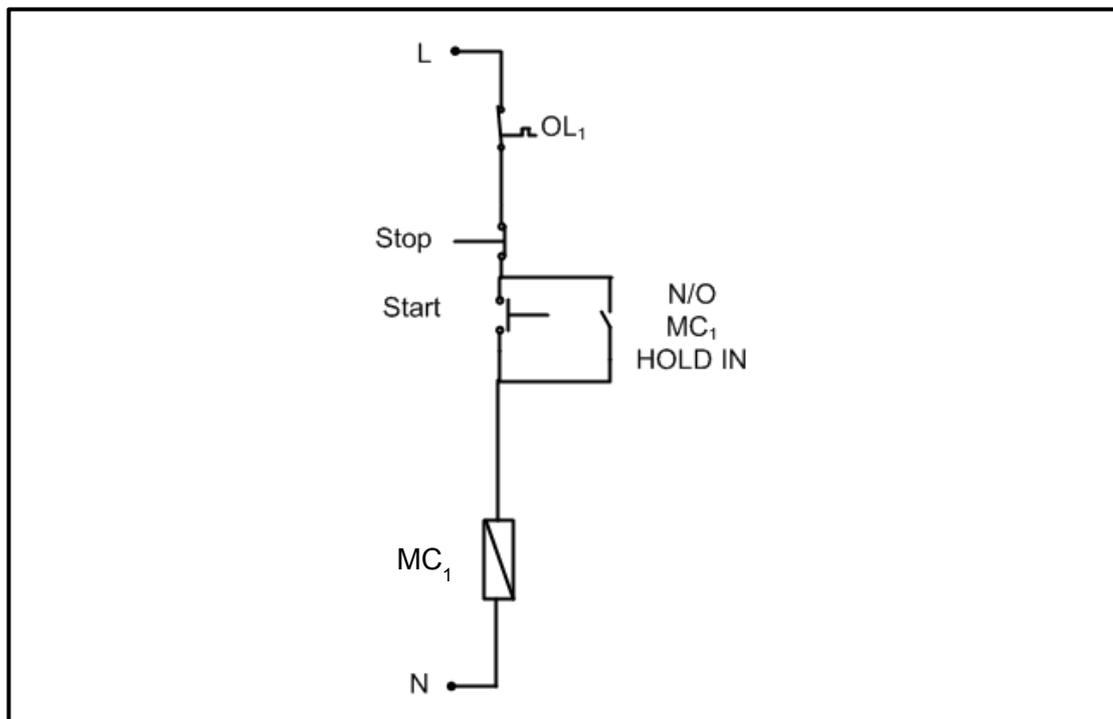

FIGURE 6.2: DOL STARTER
6.9 Refer to FIGURE 6.2 and answer the questions that follow.
6.9.2 Give ONE example where the circuit in FIGURE 6.2 may be used in an electrical application.